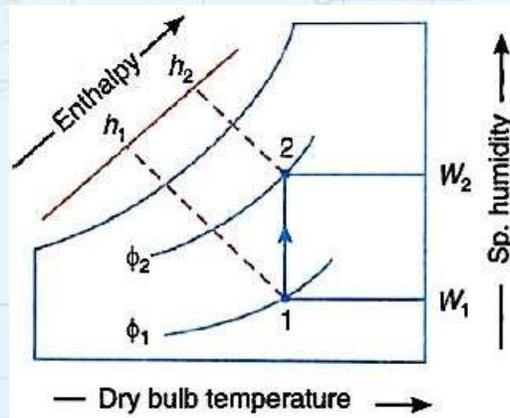

Fig.2.7 – Humidification
- ▶ In this process only the latent heat **added** to the air. (Fig. 2.7)
- ▶ Therefore, the **actual condition** of air coming out of the coil is shown by a **point 2** on the straight line joining the points 1 and 4 as shown in Fig. 2.7.